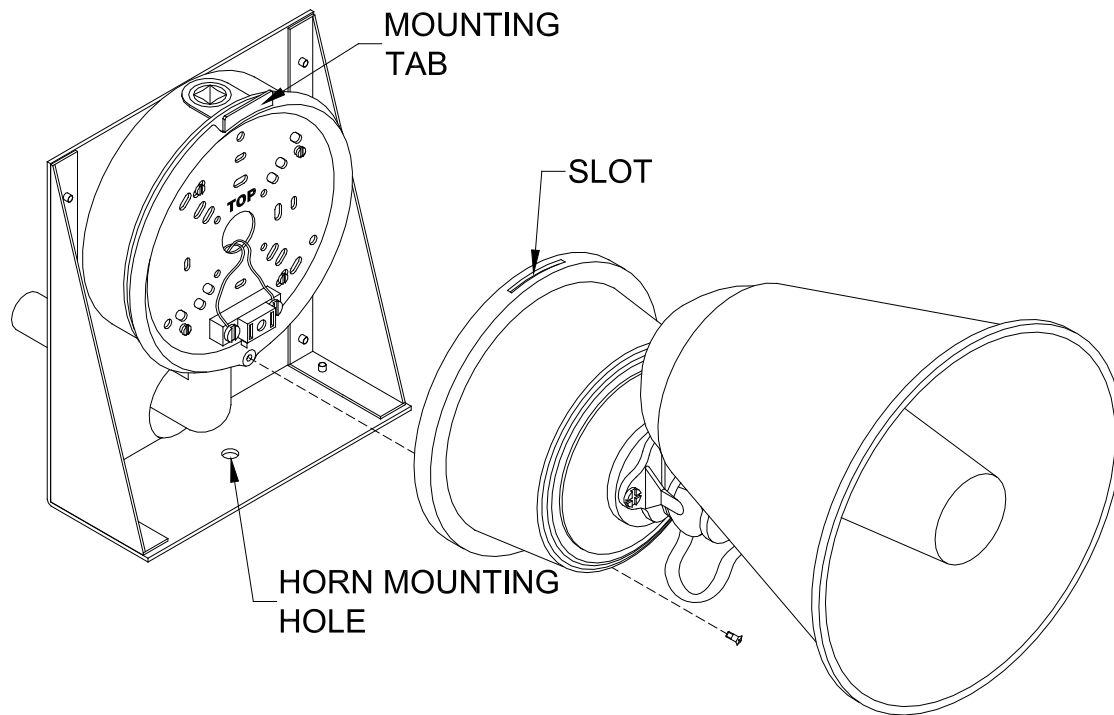

Figure 13 Horn Assembly and Mounting
16. Fasten the horn assembly to the scoreboard using the mounting bolts from the scoreboard as seen in figure 13.